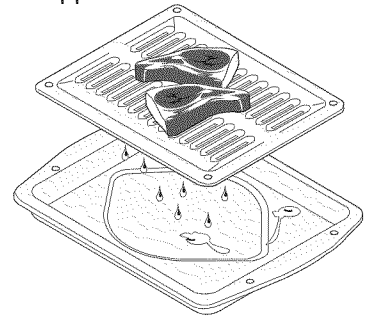

Figure 1
4. Place the insert on the broil pan (not supplied with appliance), then place the food on the insert (See Fig. 1). **DO NOT** use the broil pan without the insert or cover the insert with **aluminum foil**. The exposed fat could ignite.